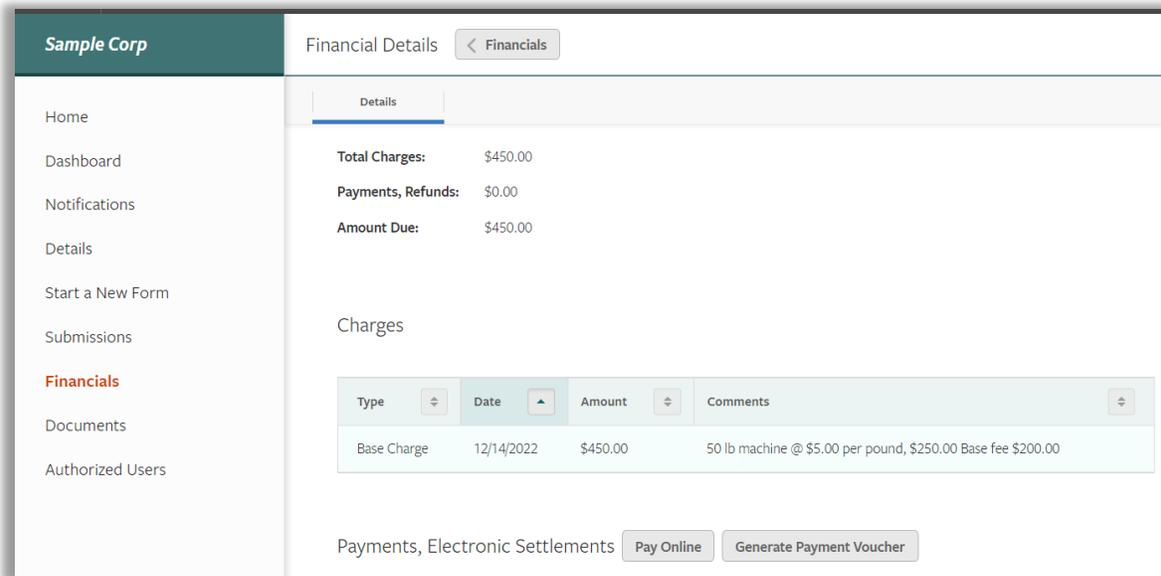

Figure 6-9 – Pay Online or Generate Payment Voucher
Step 3: Click on **Generate Payment Voucher**. See Figure 6-9.